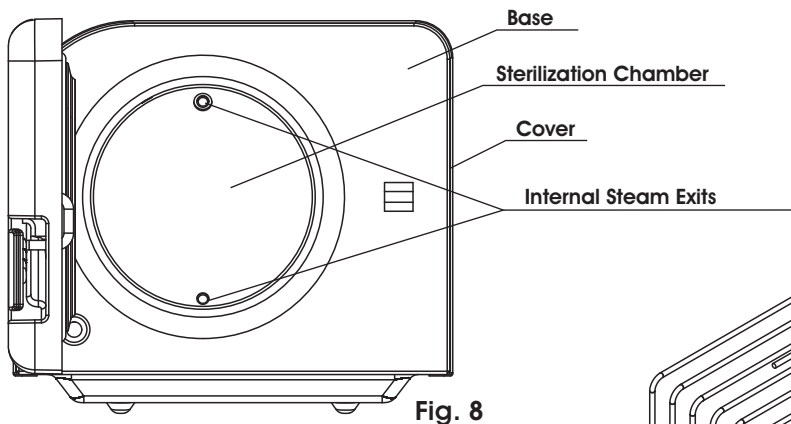

Fig. 8
- 8►INTERNAL STEAM EXITS** - There are two orifices inside the chamber (Fig. 8) that work as conduits for the steam from the chamber to the solenoid valve. They must be inspected **daily** to be kept free from obstructions.
- 11►BASE (metallic structure)** - The base of the autoclave is produced in carbon steel with textured electrostatic painting. The paint used (Nobak) has antimicrobial properties (Fig. 8);
- 12► **COVER** - It is produced in carbon steel with textured electrostatic painting. The paint used (Nobak) has antimicrobial properties (Fig. 8, page 10);
- 18► **CHAMBER** - Produced in anodized aluminum, the sterilization chamber is where the instruments/articles to be sterilized are placed (Fig. 8, page 10).